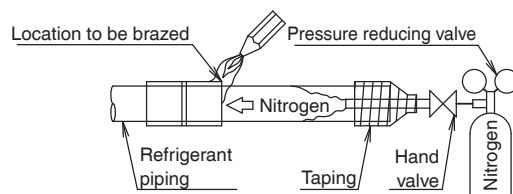

Fig. 8
- When brazing, be sure to perform nitrogen replacement and nitrogen blowing. (refer to Fig. 8)